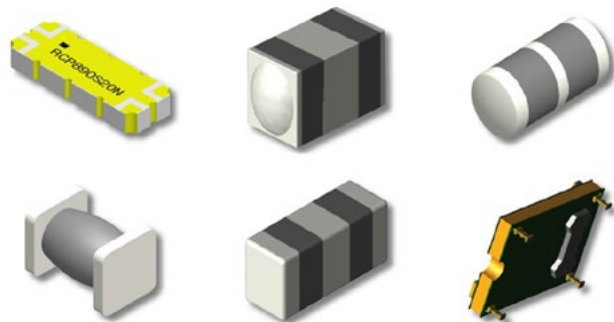

Figure 4: Formal component-modeling standards do not cover all purchasable parts.
- There are PCB-mounted components that do not conform to a standard of any kind. Figure 4 shows several examples of commercially available components that cannot be described by the JEDEC standard.